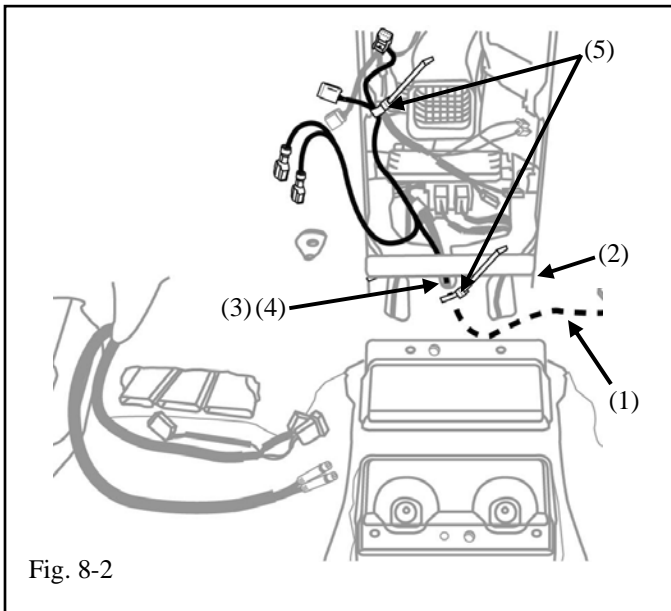

Fig. 8-2
- (3) Continue routing the Power/Audio Interface Harness (1) under the center console carpet and the bracket (2), under the emergency brake cable (3), and up through the opening of the IP (4). (Fig. 8-2)
- (4) Secure the Power/Audio Interface Harness (1) using two cable ties (5). (Fig. 8-2)